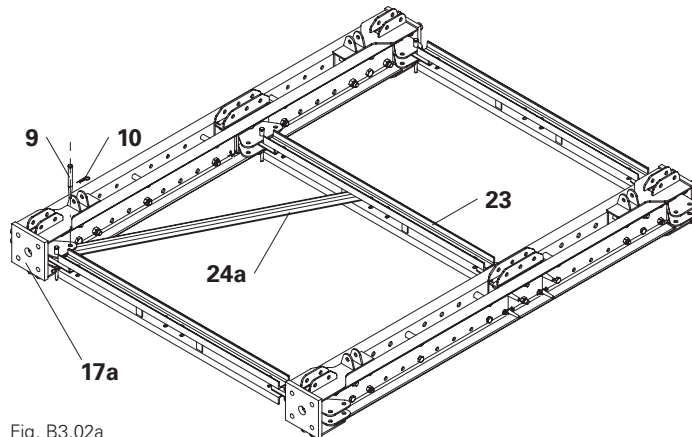

Fig. B3.02a
2. Swivel the diagonal strut VST 200/150 (**24a**)* as far as possible into the horizontal ledger VST 200 (**23**). (Fig. B3.02a)